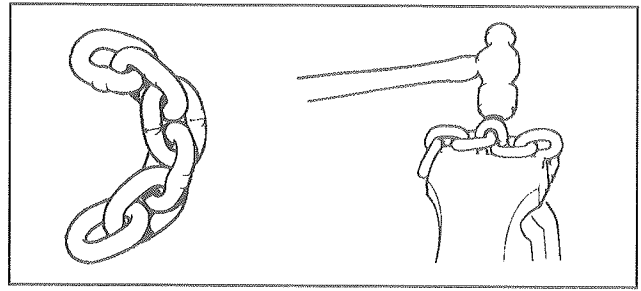

Figure 11. Cutting chain by nicking
1. Use a grinder and nick the link on both sides (figure 11), then secure the link in a vise and break off with a hammer.